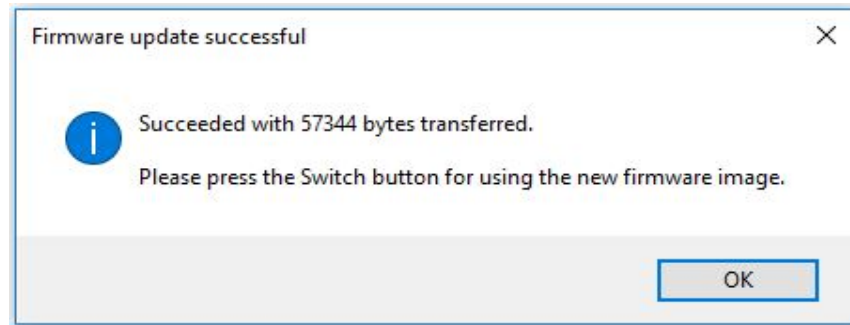

Figure 9: Firmware Update Successful message page
- Once the FW Update Progress is 100%, a message box in figure 9 will be visible to show whether the firmware update is successful.